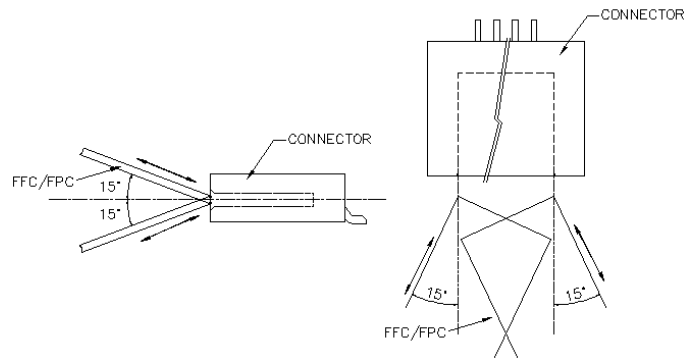

Figure 2.
- FPC/FFC to be insertion and withdrawal at an angle of about 15° , and the FPC/FFC should be inserted firmly all the way to the back. (see figure 2).